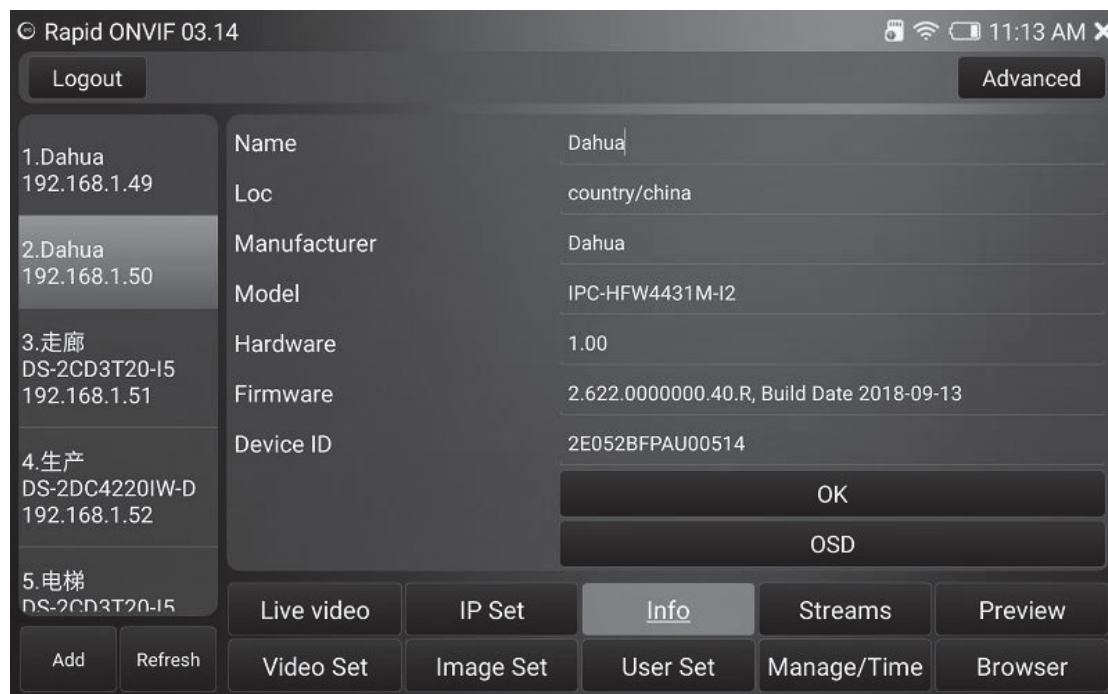

Figure 16
1) Device information viewing, touch the 'device information' button to view the camera information, touch the item to edit value then touch OK to apply, as shown in Figure 16